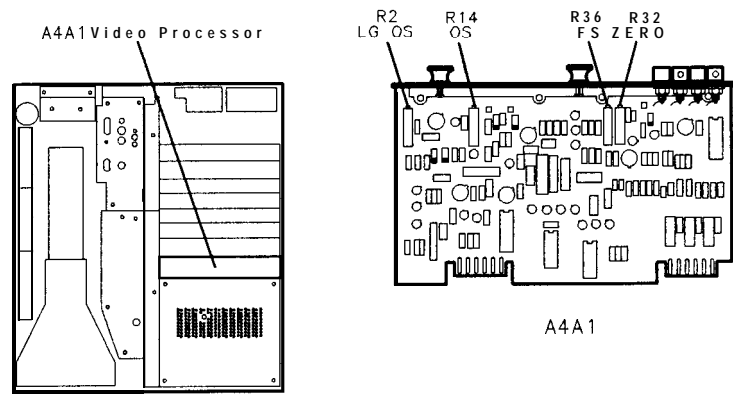

Figure 3-36. Location of Video Processor Adjustments
10. Adjust **A4A1R14 OS** for a DVM indication of 0.000 ± 0.003 Vdc. See Figure 3-36 for the location of the adjustment.
21. Adjust **A4A1R2 LG OS** for DVM indication of +0.100 f0.001 Vdc greater than the DVM indication recorded in step 19. See Figure 3-36 for location of adjustment.